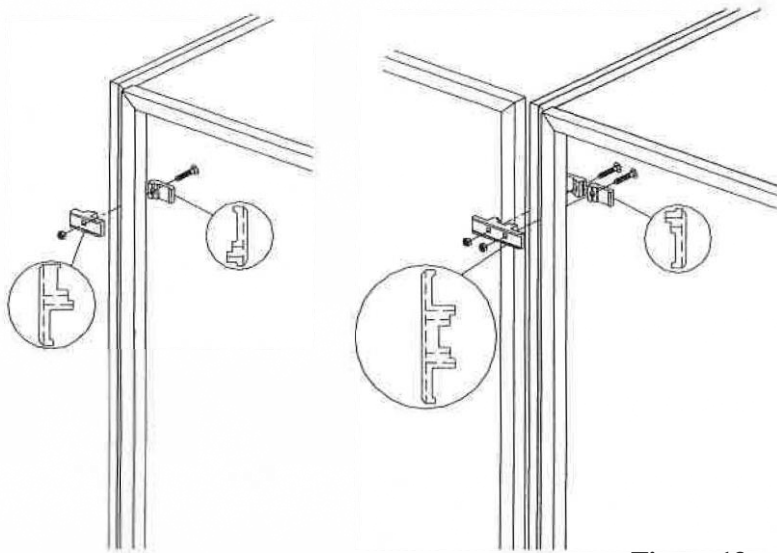
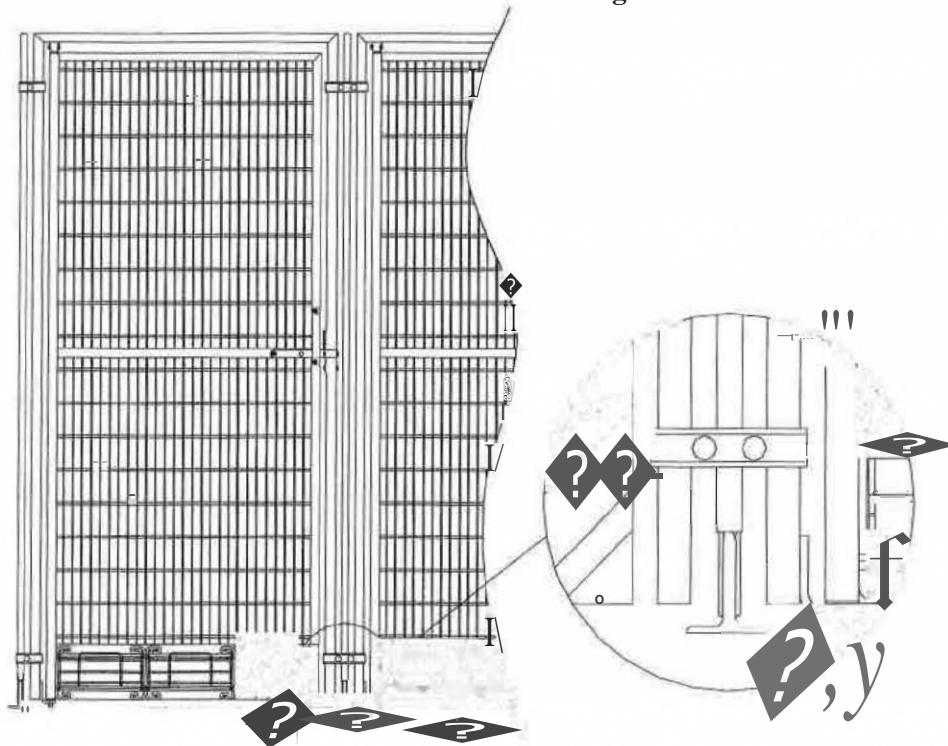

Figure 13
Figure 14
1. Attach the gate / stall front on the front of each run between the division panels with two clamps on each side using the 5/16" x 1-1/2" bolts and nuts provided as shown in Figure 13. Note: It takes two halves to make up one clamp. Attach gates/ stall fronts to outside division panels using "square - 1" panel clamps". All other gates / stall fronts will use "square - 1" triple clamps". To help insure the safety of the animals the round head of the bolt should be assembled toward the inside of the run. Note: The triple clamps attach two gates/ stall fronts together. Therefore you will have to hang two gates/ stall fronts at the same time (see Figure 14).